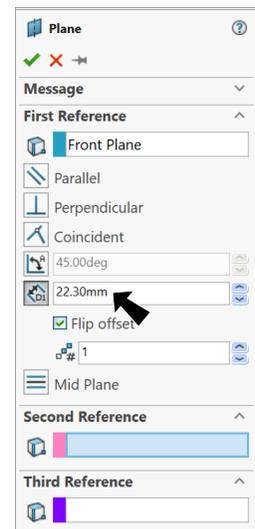

Fig. 16
Step 3. In the Plane Property Manager set: under First Reference, **Fig. 16**